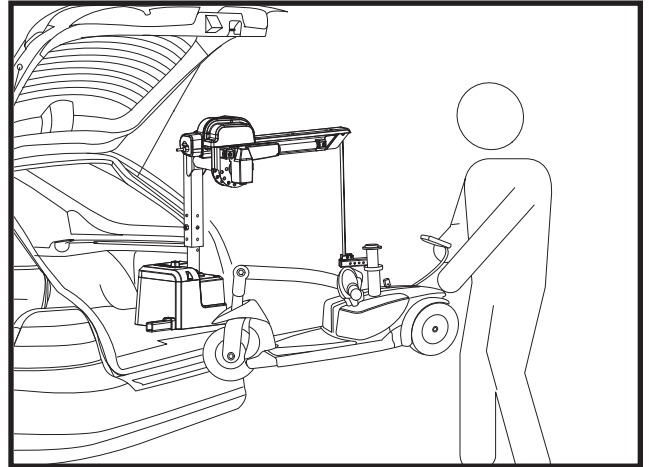

Figure 8. Lifting the Mobility Product
11. Once the mobility product is raised high enough to fit into the vehicle, stop the lift. **See figure 8.**